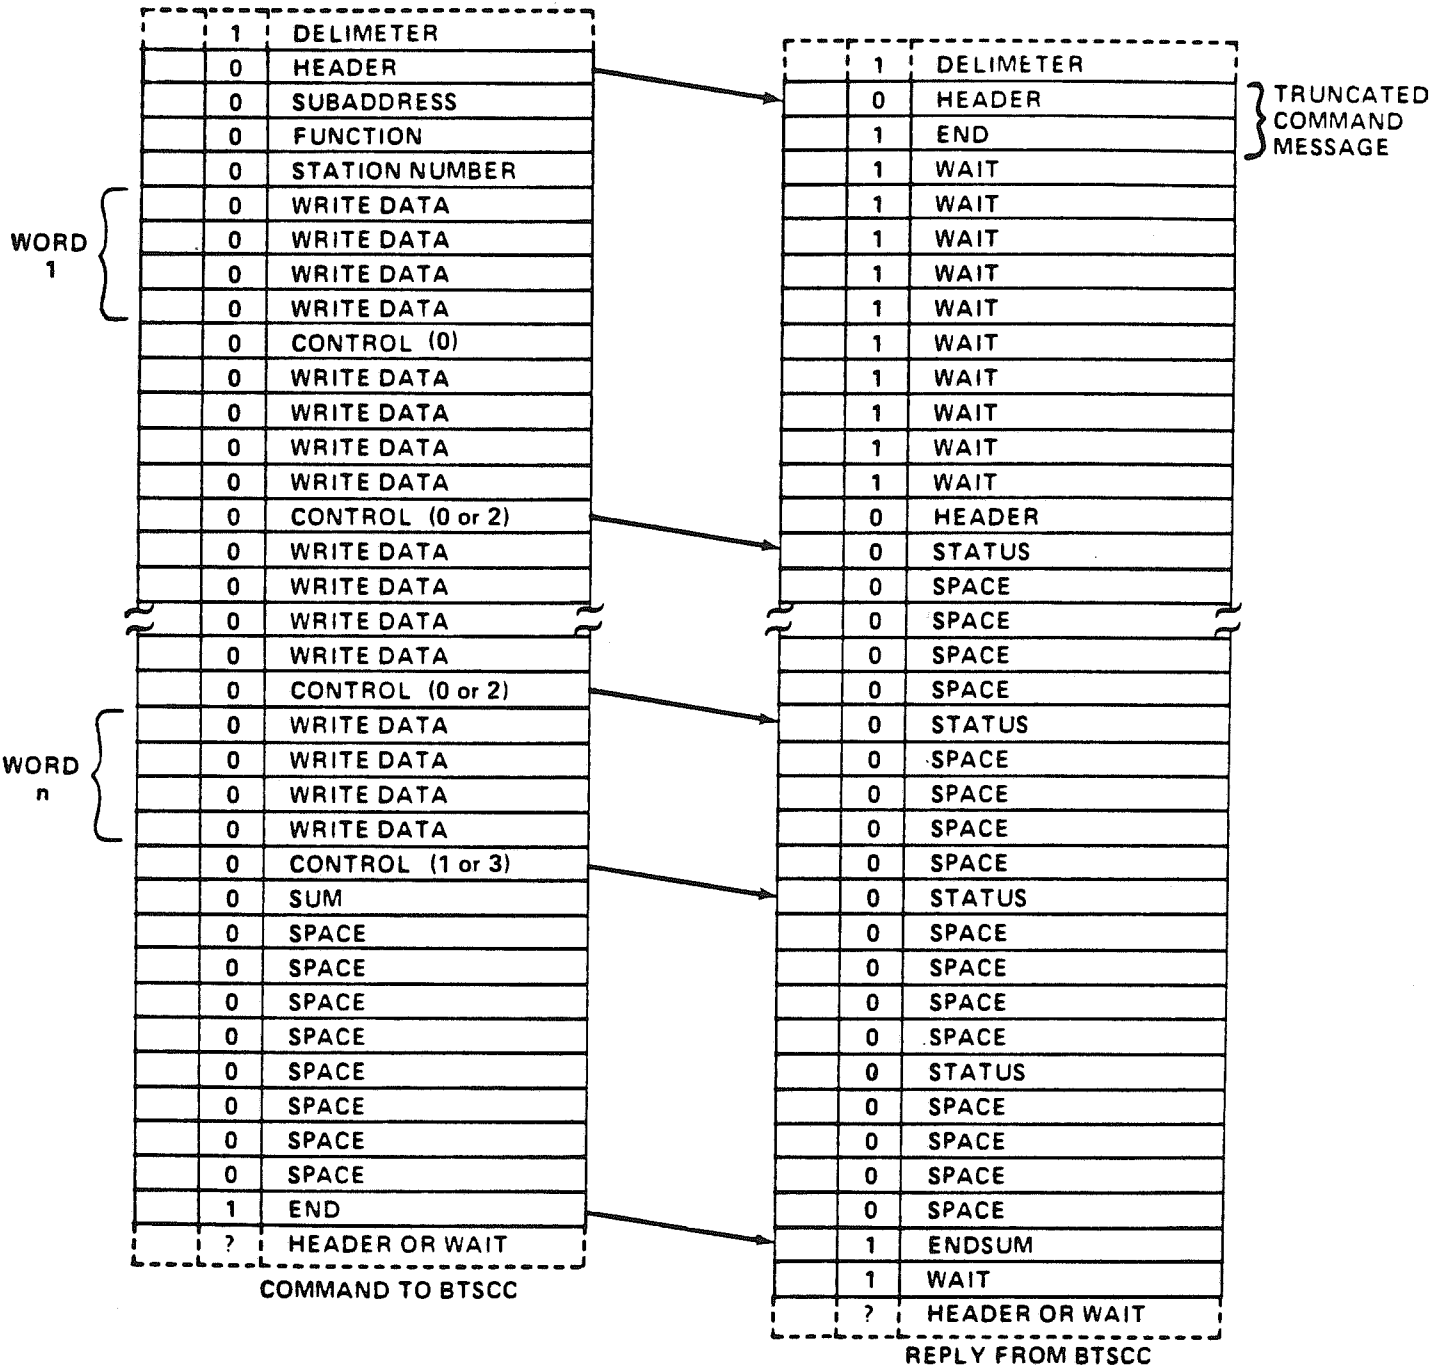
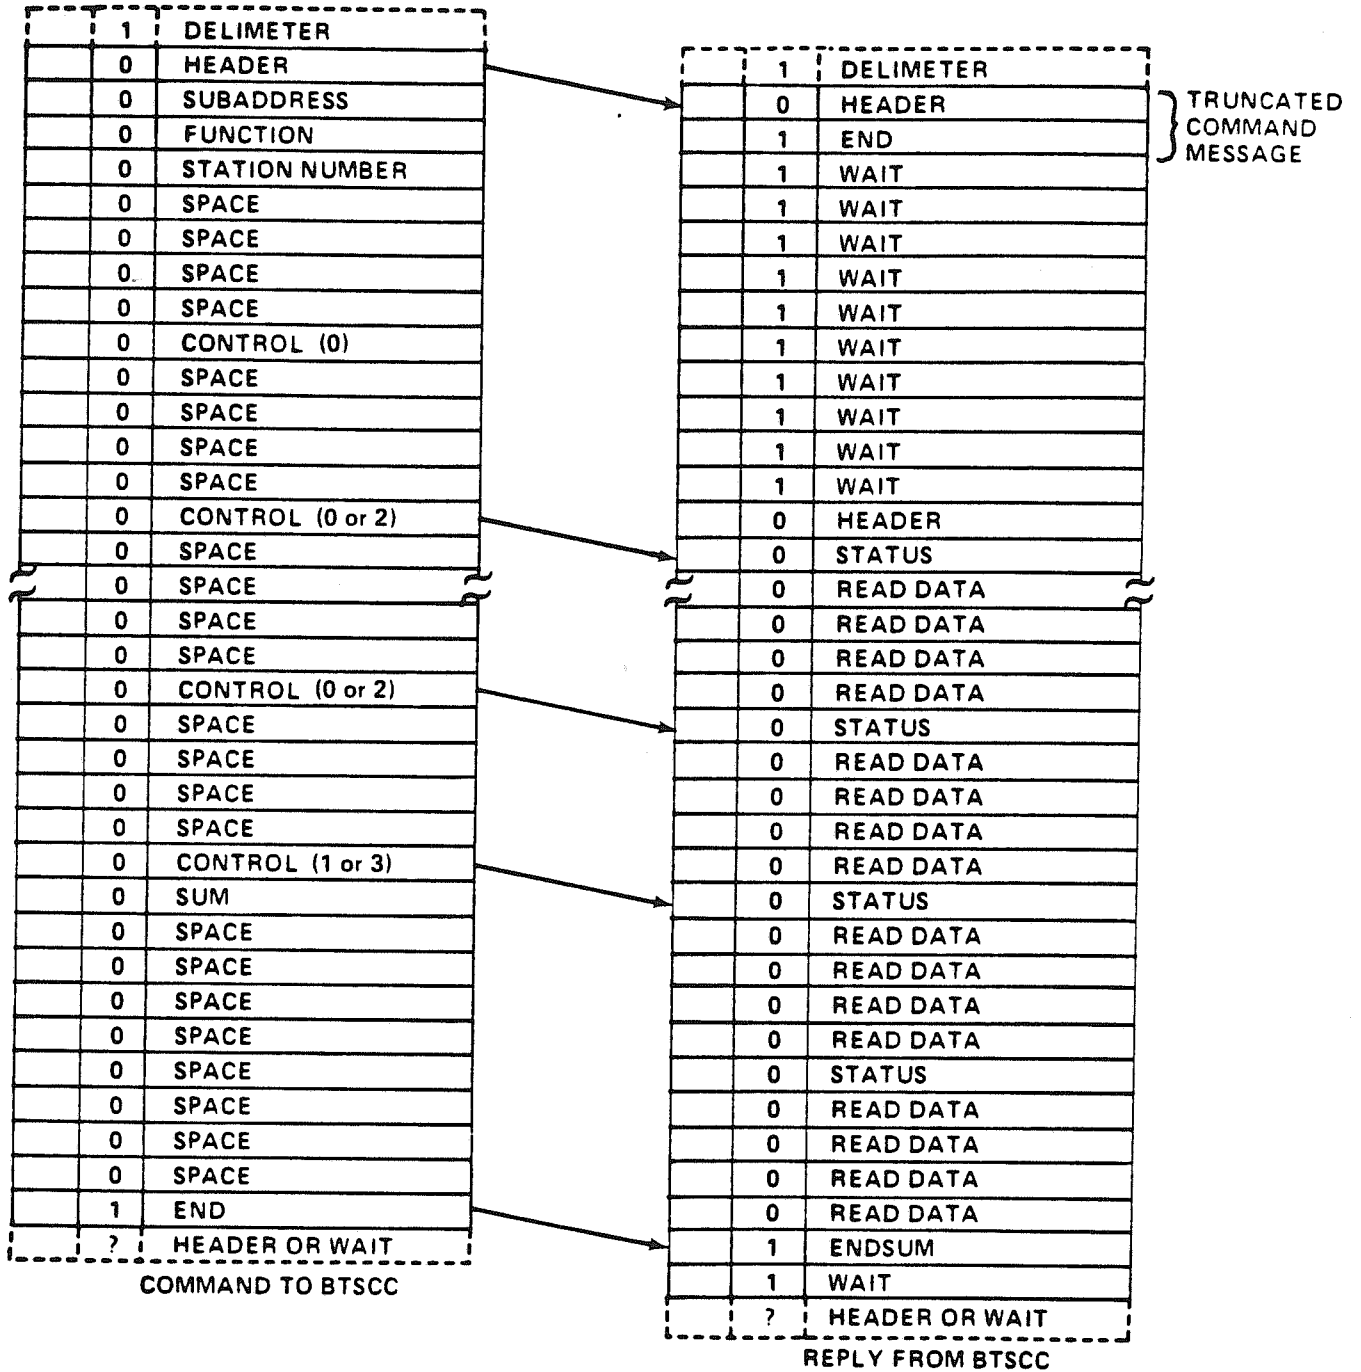

Figure 1: Command/Reply Sequence for Block Write Operation
Figure 2: Command/Reply Sequence for Block Read Operation
Figures 1 and 2 show the bytes associated with the Command/Reply sequence for a block mode operation (single-NAF or list-mode). Note that it is a logical extension of the L-2 single-transaction sequence.
Refer to Figure 1. For this sequence, the BTSCC receives an N(30)·F(12)·A(2) command, indicating a LIST2 selection. The remaining sequence is then:
- A. After the Station Number (N) byte is received and a "LIST2" sequence identified, the BTSCC sets signal line LIST2. This line is part of the "private bus" cable between the units. The RAM address pointer in the LSM is set to word 1024, the start of the OUTPUT NAF LIST2.
- D. A CONTROL (0) byte is received, indicating valid write data in the write buffer and the start of a Dataway cycle.
A "scan" Read transfer sequence operates in a similar manner to the Write sequence. Refer to Figure 2. For this sequence, the BTSCC receives an N(30)·F(12)·A(0) command, indicating a LIST0 selection. The remaining sequence is then:
- C. A CONTROL (0) byte is received and the BTSCC starts the Dataway cycle. At S1 time, the address pointer increments so that the next NAF is readied within the LSM (also, see Q Repeat mode, discussed below). At the end of the Dataway cycle, INC NAF is pulsed and NAF 2 is enabled onto the Dataway.